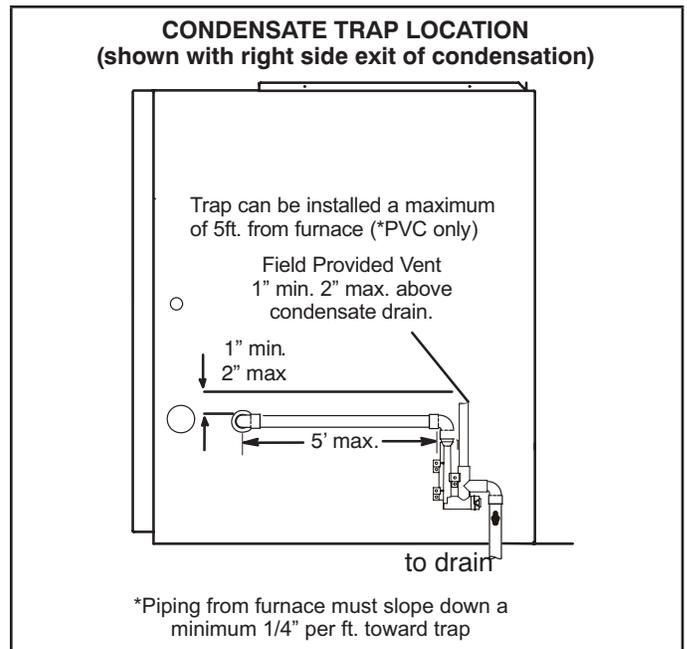

**FIGURE 44**
This unit is designed for either right- or left-side exit of condensate piping. Refer to FIGURE 44 and FIGURE 45 for condensate trap locations.
- 2 - Use a large flat head screw driver or a 1/2" drive socket extension and remove plug (FIGURE 44) from the cold end header box at the appropriate location on the side of the unit. Install provided 3/4 NPT street elbow fitting into cold end header box. Use Teflon tape or appropriate pipe dope.